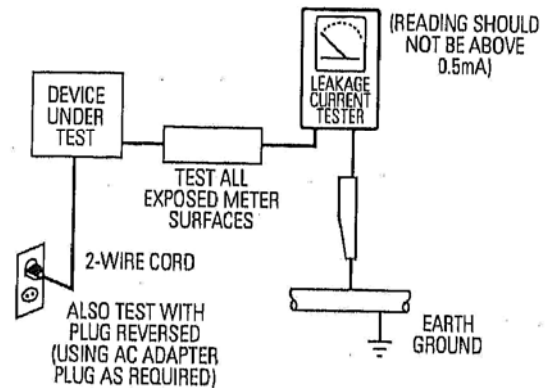

Fig. 1-1 AC Leakage Test
(2) Be sure that there are no cabinet openings through which adults or children might be able to insert their fingers and contact a hazardous voltage. Such openings include, but are not limited to, excessively wide cabinet ventilation slots, and an improperly fitted and/or incorrectly secured cabinet back cover.
(3) Leakage Current Hot Check-With the instrument completely reassembled, plug the AC line cord directly into a 110-240V AC outlet. (Do not use a isolation transformer during this test.) Use a leakage current tester or a metering system that complies with American National Standards institute (ANSI) C101.1 Leakage Current for Appliances and Underwriters Laboratories (UL) 1270 (40.7). With the instrument's AC switch first in the ON position and then in the OFF position, measure from a known earth ground (metal water pipe, conduit, etc.) to all exposed metal parts of the instrument (antennas, handle brackets, metal cabinets, screwheads, metallic overlays, control shafts, etc.), especially any exposed metal parts that offer an electrical return path to the chassis. Any current measured must not exceed 0.5mA. Reverse the instrument power cord plug in the outlet and repeat the test. See Fig. 1-1.